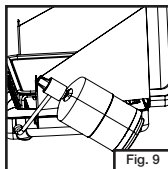

Fig. 9
- Propane cylinder correctly installed. (Fig. 9)